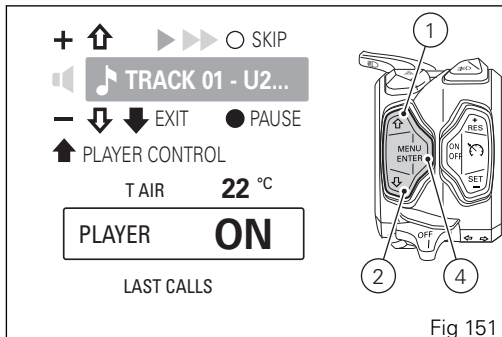

Fig 151
Press button (4) to switch it on. The instrument panel shows "PLAYER ON" and displays the Player menu above the Menu (Fig 151).
When the Player is turned on, within Player control page (Fig 151), button (1), button (2) and button (4) can only be used to control the Player:
- Volume up: Press button (1) once.
- Volume down: Press button (2) once.
- Pause / Play: Press button (4) for 2 seconds.
- Skip / Next track: Press button (4) once. Each press corresponds to a track skipped.